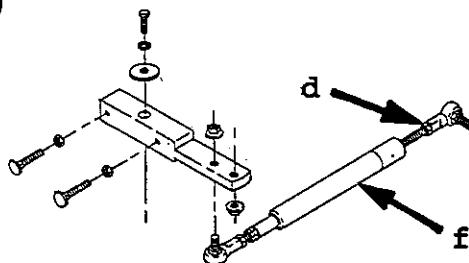

Fig. 5 Neutral Centering Device Adjustment
- d. The Neutral Centering Device is located on the right-hand underside of the engine deck. Loosen jam nut from the ball joint which connects the overrride assembly to the engine deck anchor mounting. See Figure 5 on next page.